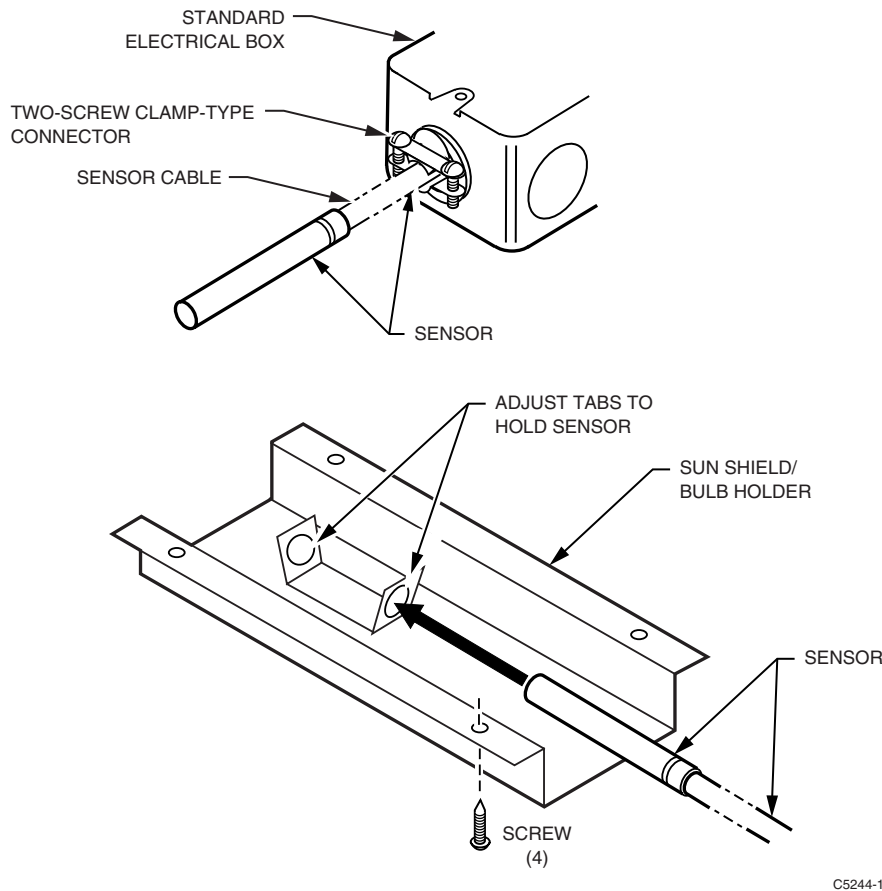

Fig. 1. Mounting Sensor on Sun Shield/Bulb Holder.
3. Route the cable end of the Sensor through a two-screw clamp-type connector and into a standard electrical box (Fig. 1). Provide four inches (102 mm) of cable within the box.